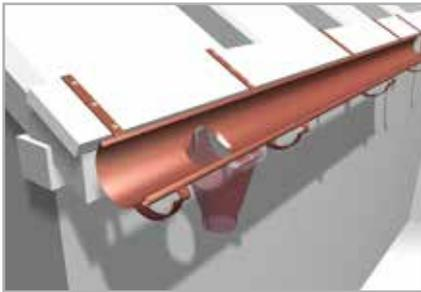

Fig. 18
- 3.8 Install the gutters by placing them in the rear and then in the front flange if fascia brackets are used, or in the front and then in the rear flange if rafter brackets are used **(Fig. 18, 19)**